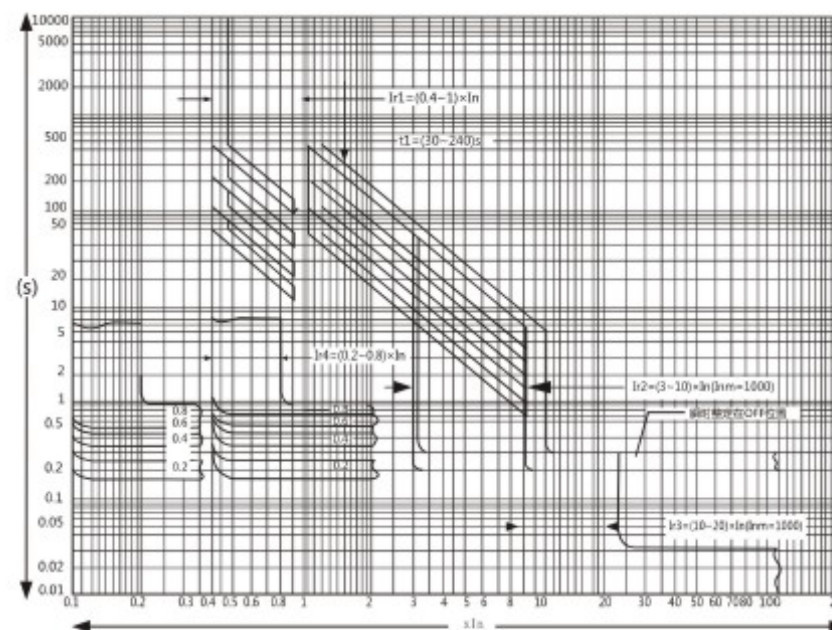

图1 Figure 1
5) 断路器过电流保护特性、接地故障保护特性曲线见图1所示。
5) Over-current protective characteristics, earthing fault protection characteristics of breaker as Figure 1.